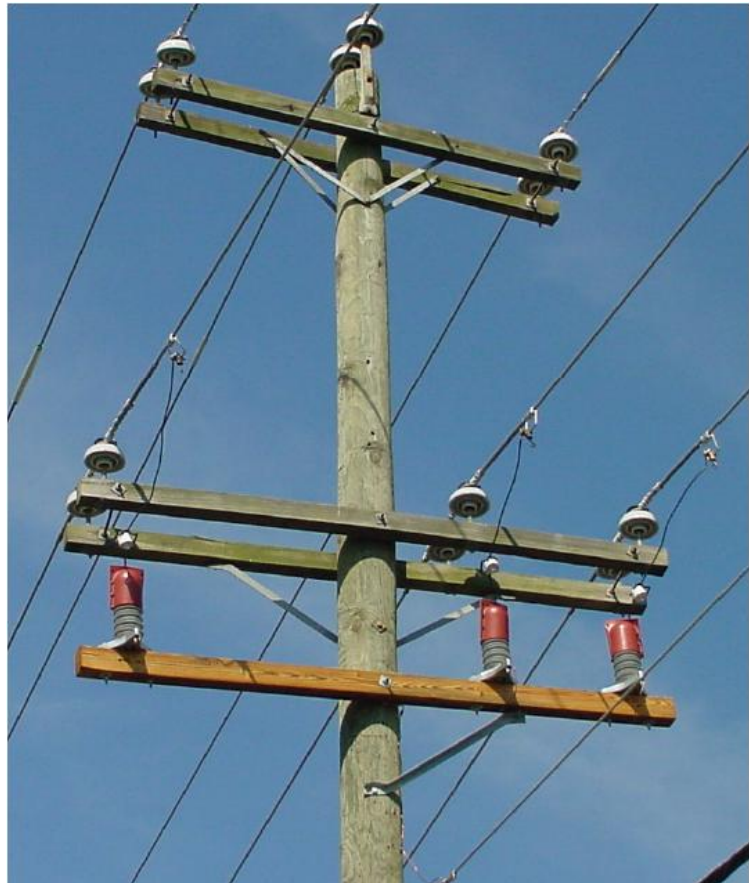

Figure 2 Close-up of Underbuilt Line Arresters
**Faulted Circuit Indicators:** Installing these devices on the line or grounded side of the arrester may be helpful in locating a faulted unit. They can be seen in figure 2 just above the arresters.